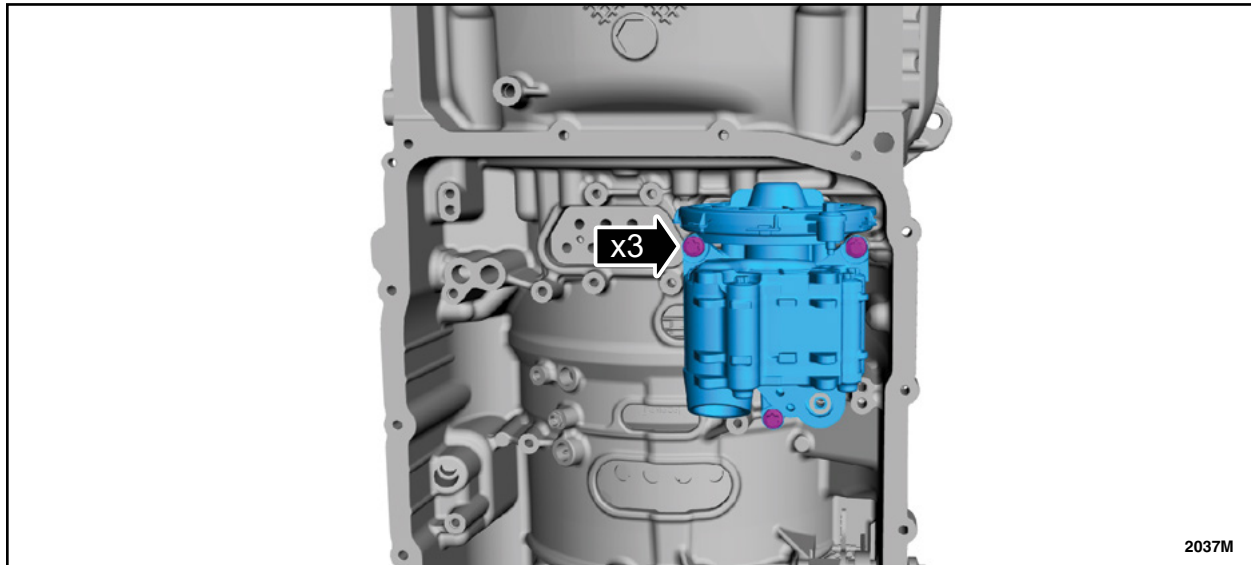

FIGURE 38
40. Install the transmission fluid pump and the bolts. See Figure 38.